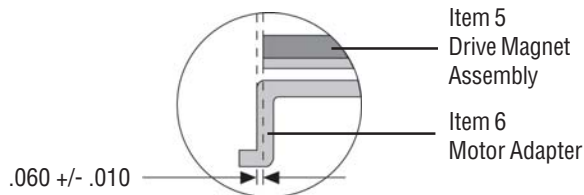

Figure 1
4. Remove drive mag assembly (item 5) from box and slide assembly onto motor shaft making sure shaft key (item 12) is in place. Installation dimension is .060 +/- .010 inches as shown in Figure 1. Tighten 2 set screws (item 5A) to 228 in-lbs. (25.8 N-m).
5. Gripping the discharge and the side of the impeller housing (note above warning), carefully install the wet end into the motor adapter. Note that the two housing studs (item 15) should be located at 3 and 9 o'clock (for 12 o'clock discharge location) and will go through the motor adapter.
6. Install the 5/16 x 3/4 SS hex bolts (item 7), the 5/16 flat washers (item 9), and the 5/16 hex nuts (item 8) and